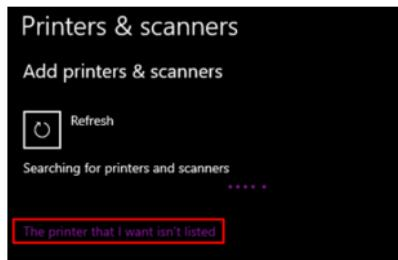

Figure 21
4. On the **Add printers & scanners** screen, click **The printer that I want isn't listed**. (Figure 21)